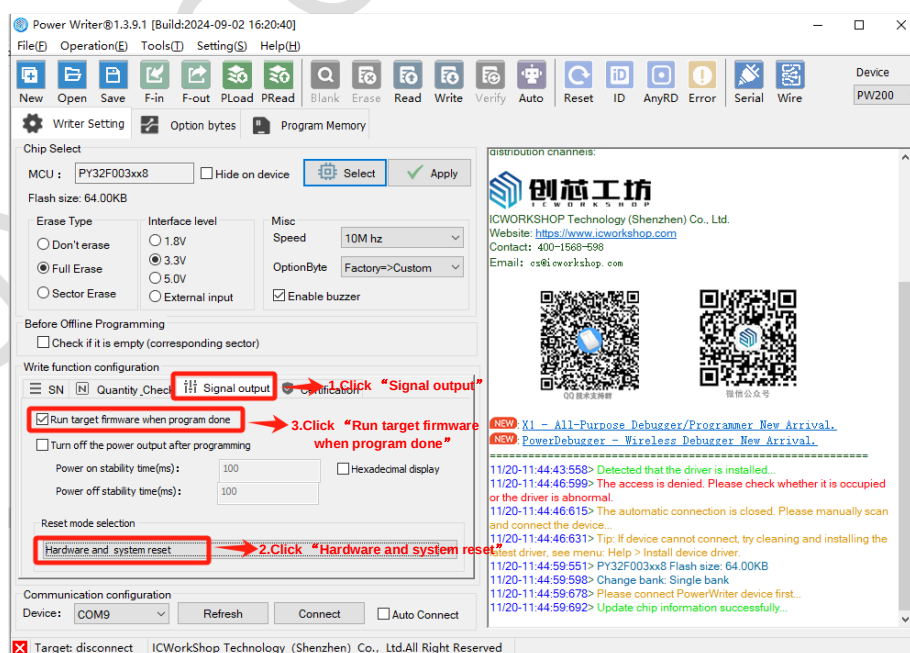
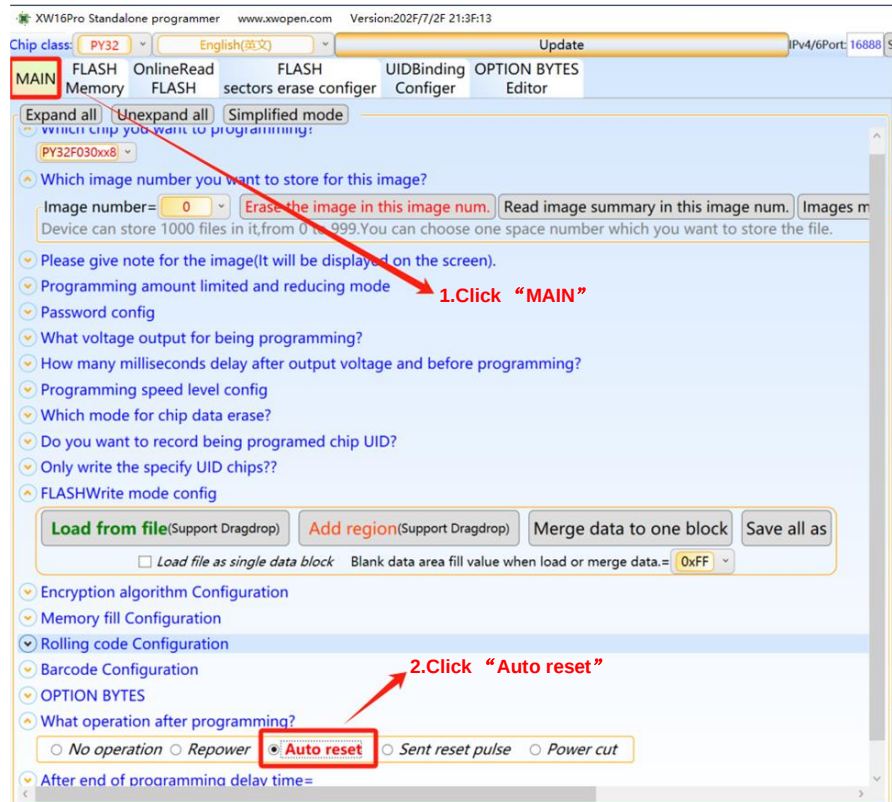

Figure 14-3 Power Write Operation Tick 'Reboot Chip After Programming'
Figure 14-4 XW Operation 'Smart Reset'
- When configuring the Option of the programmer, you need to check the "Smart Reset" function or "Restart the chip after programming" (programmers typically have similar options that need to be selected). The specific steps are shown in Figures 14-3, Figure 14-4.